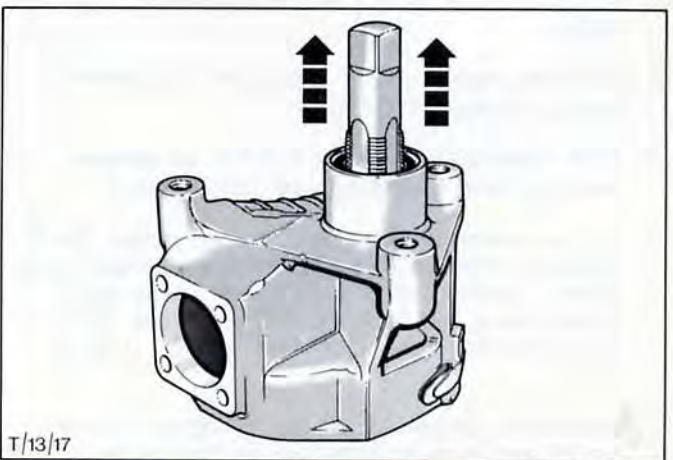

Fig.29. Remove rocker shaft bush using 7/8 BSP tap.
10. Remove rocker shaft bush by screwing a 7/8 B.S.P. tap into shaft bush and pressing out tap and bush from housing. Fig.29.